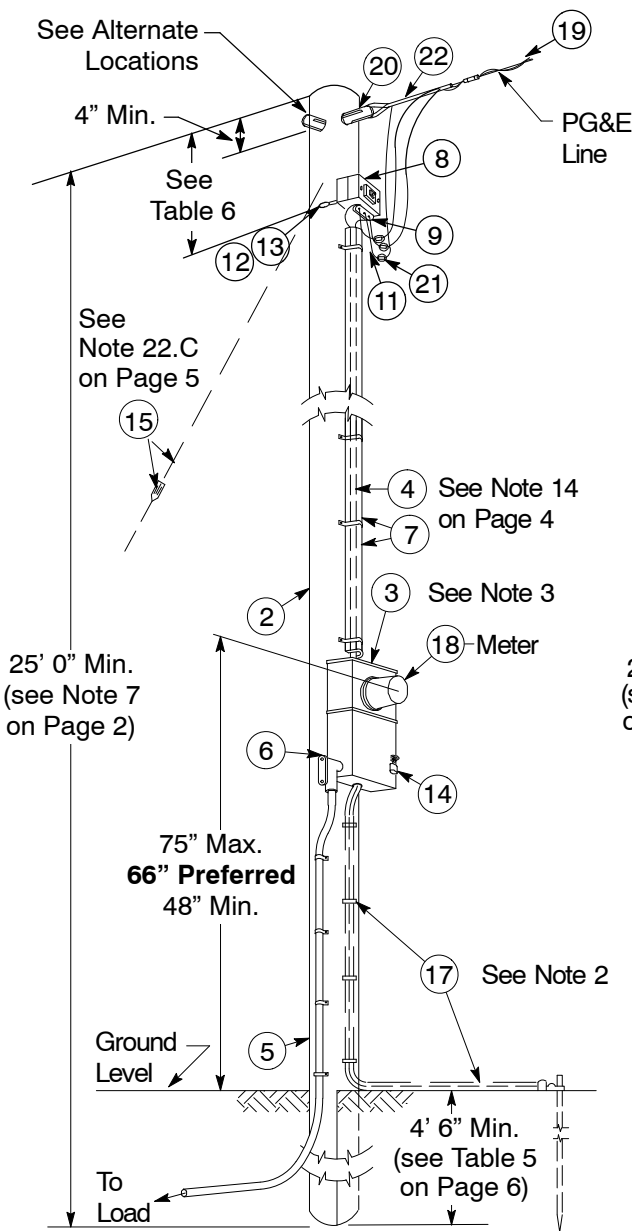

Figure 5
- B. Permanent Service Poles: Anchor guy only as shown in Figure 13 on Page 11. See Figure 5 on Page 9 for the correct placement of guy.
See Figure 5 and Figure 6 on Page 9